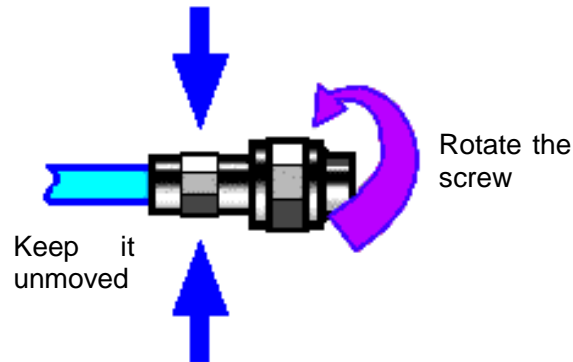

Fig. 3.5 Connection
Step 2. As shown in Fig. 3.5, move both connectors straight together, so that they can be connected smoothly; rotate the threaded sleeve of connector (rather than the connector itself) until it is tightened; during connection, there can be no relative rotary motion both connectors;